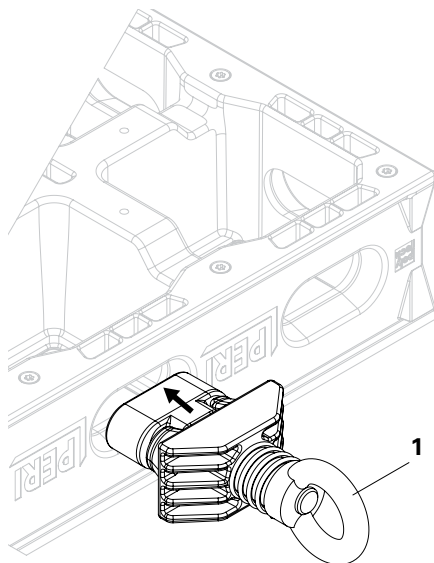

Fig. 6
1. Mount Crane Eye DUO (1) to the horizontal element. (Fig. 6)
2. Position Crane Eye DUO in the slotted hole of the panel. (Fig. 6)